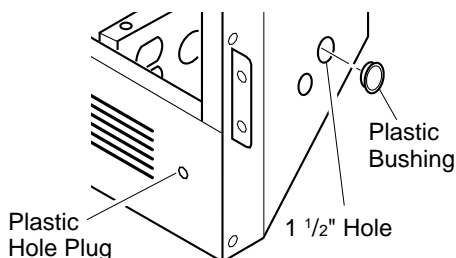

Figure 17 - Installing Plastic Bushing for Power Cord
- Locate the plastic hole plug installed in the 3/8" diameter opening in the lower right side of the firebox front panel (see Figure 17). Remove the plastic plug and discard.